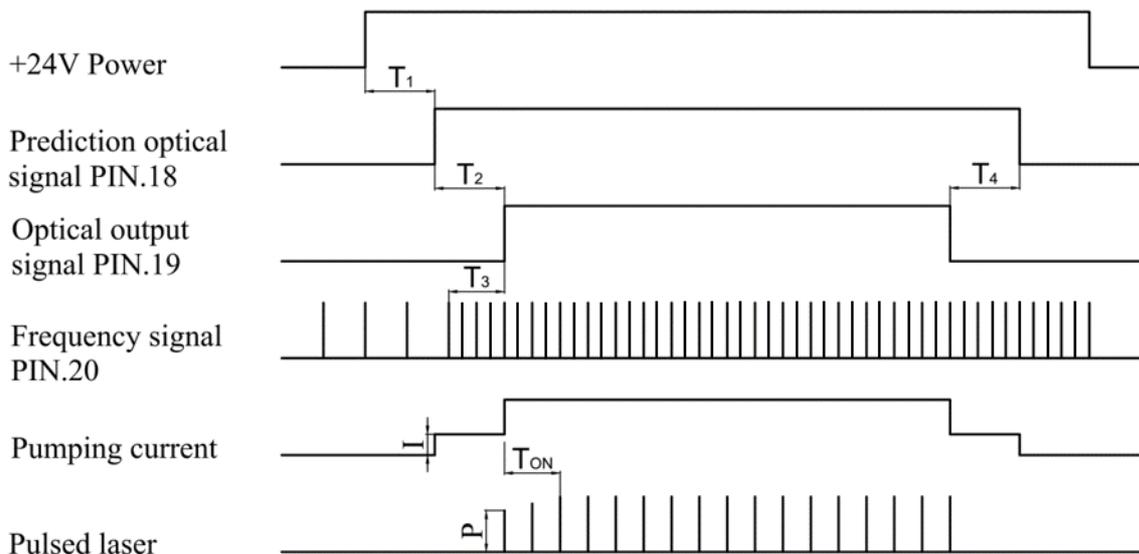

Figure 9. DB25 sequence diagram
f) Below Figure 9. ure shows DB25 sequence diagram: